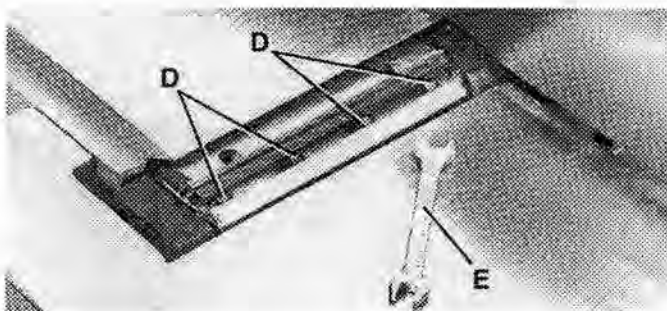

FIGURE 25
6. If the knife is too high or too low at either end, slightly turn the five screws, four of which are shown at (D) Fig. 25, in the knife locking bar clockwise to loosen, using the wrench (E) supplied. Then adjust the height of the knife by turning the knife raising screws (F) Fig. 26, counterclockwise to lower and clockwise to raise the knife. **NOTE: If the knife is to be lowered, it will be necessary to carefully push down on the knife after screws (F) have been turned. WARNING: BE EXTREMELY CAREFUL THAT YOUR HANDS DO NOT COME IN CONTACT WITH THE KNIVES AS THE CUTTING EDGES ARE VERY SHARP. IMPORTANT: Tighten knife locking screws (D) after adjustments have been made.**